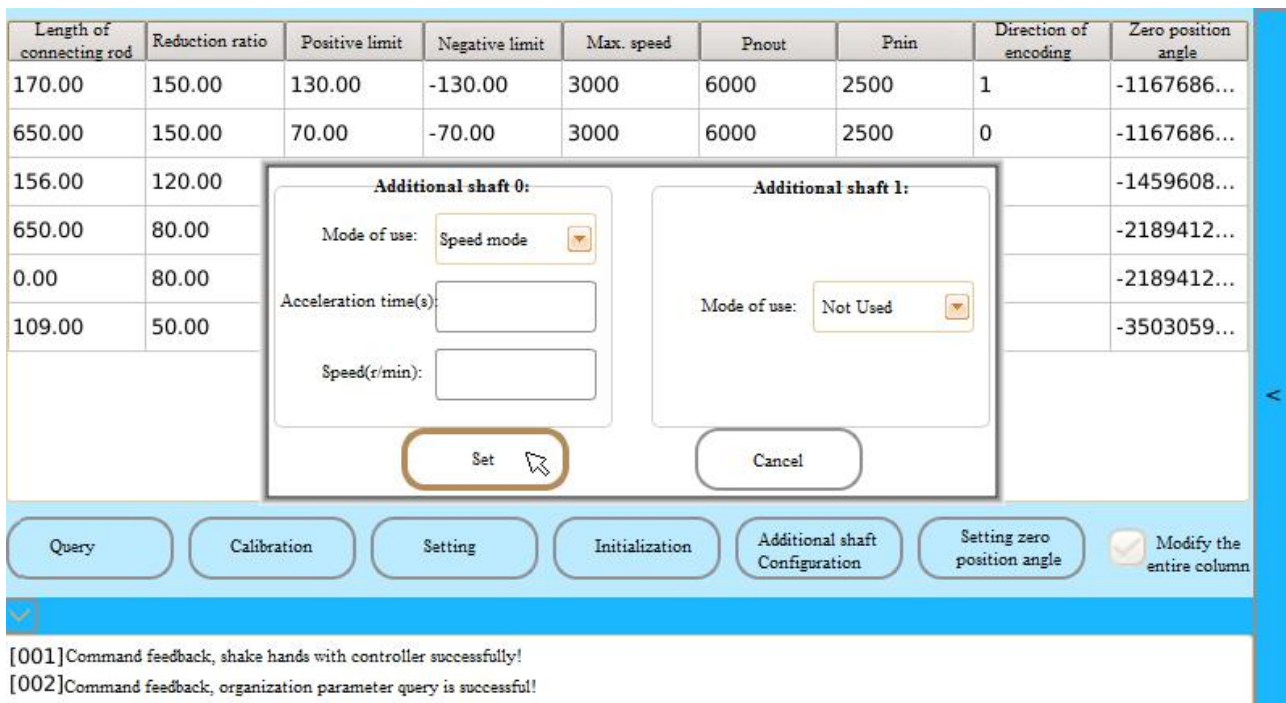

Fig. 3.7 Additional Shaft “Speed” Mode Setting
**b. Speed mode:** When the “Additional shaft” is set to “Speed mode”, it is necessary to set the “Acceleration time” and the “Speed”, as shown in Fig. 3.7.